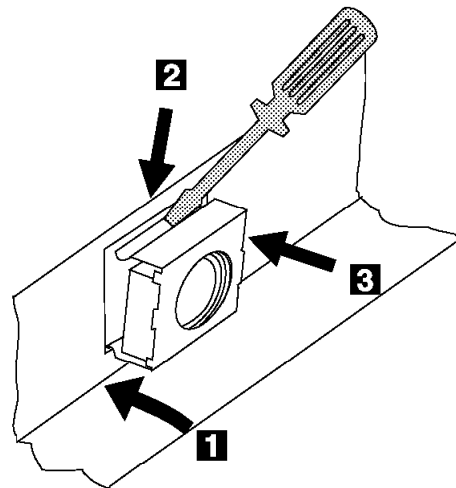

Figure 3. Installing the Captive Nuts
- ___ 4. Refer to Figure 3 to **install** the two captive nuts (PN 58G5766).